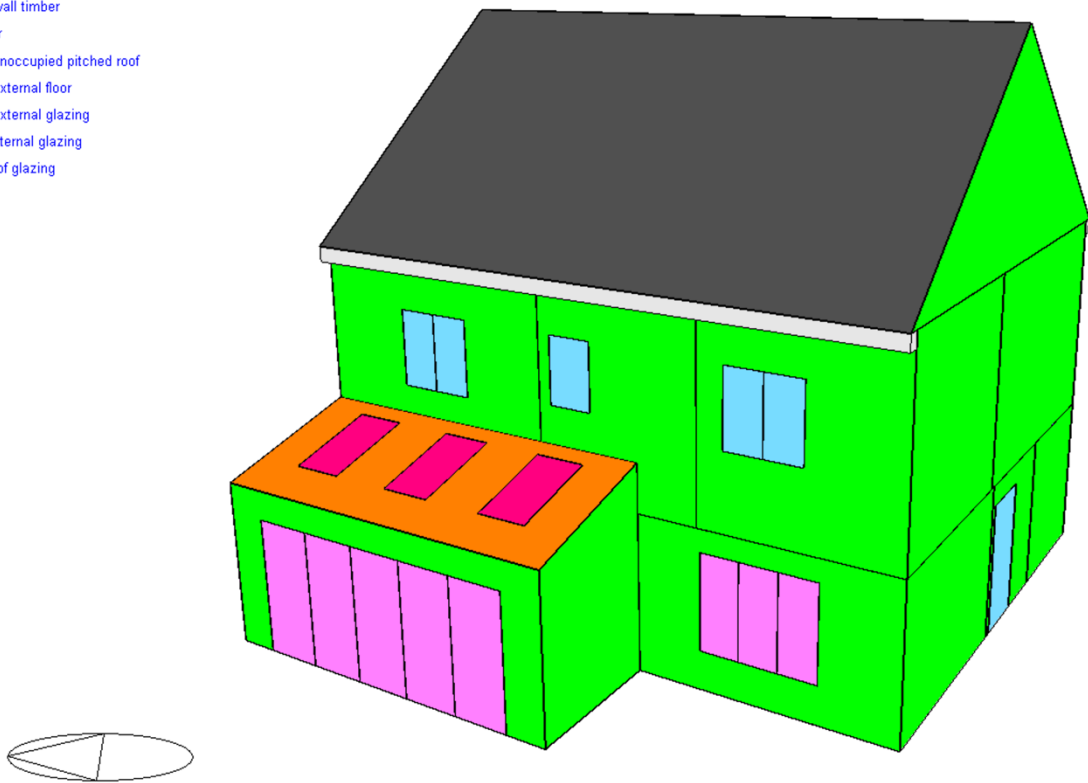

Figure 1: Rear elevation to type A showing solar glazing and rooflights.
10. See Figure 1 for locations for glazing.
What is the overall overheating strategy (i.e. what design features are key to the project passing)?	1. Ensure adequate opening casement for natural ventilation complies with Part F. 2. Ground floor windows open by 70 degrees. 3. Upper floor windows open to a depth of 650mm from inside face of external wall. 4. Upper floor window sills modelled as being 1000mm from finished floor level. If not achieved, then they will need internal guarding to 1000mm from FFL. 5. Bedroom windows modelled closed at night due to external noise issues. 6. Continuous ventilation to achieve up to 0.45 air changes per hour. 7. Window Glazing 'g' value at 0.66. 8. Rear rooflight glazing 'g' value = 0.45. 9. Rear glazing to Living/Kitchen glazing 'g' value = 0.50. 10. See Figure 1 for locations for glazing. 11. Mechanical purge ventilation required to rooms and rates as set out in table 3 at the back of this report. Noise limit for purge fan to be maximum 40 dB. 12.